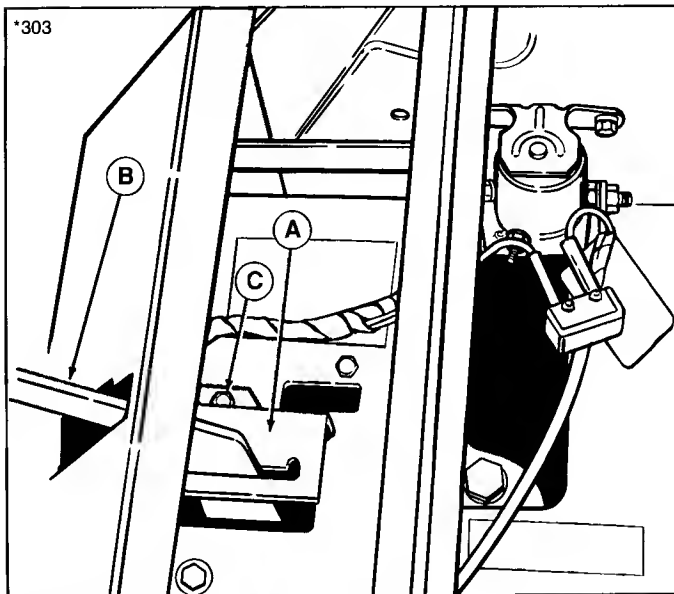

Figure 32. Control Lever Quadrant
5. Raise the seat deck. The control lever quadrant (A, figure 32) is mounted with slotted holes so it can be adjusted. Loosen the two self-tapping screws (C) and move the quadrant so the lever is centered in the quadrant gate. Then tighten the two screws.